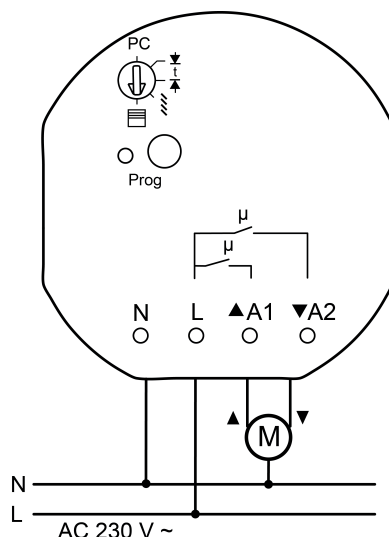

Figure 2: Connection example
- Connect load as shown in the connection example (figure 2).